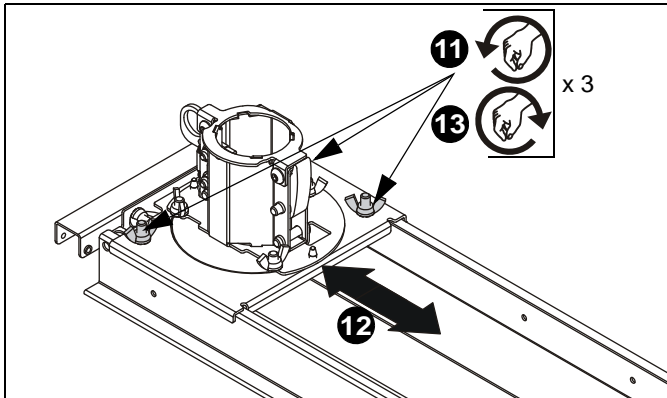

Figure 10
11. Loosen three wing nuts in upper side of ceiling plate assembly (R) to adjust the lateral shift of the column support. (See Figure 10)
12. Position column support (as required) to center support over ceiling tile hole. (See Figure 10)
13. Tighten wing nuts to prevent further movement of column support. (See Figure 10).